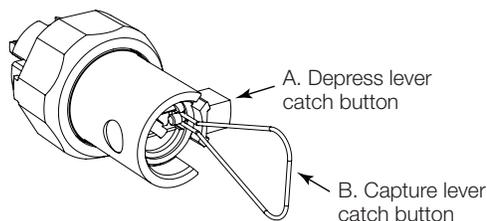

Figure 10 Rose Installation Tool
1. Orient cam and depress lever catch button (see cam orientation diagram page 7 step 7). The lever catch button will slide into the lever catch slot in the cam. Use the rose installation tool (RIT) to retain the lever catch button - see Figure 10 below for RIT instructions (for D rose installation only). Lock lever by button, if applicable.